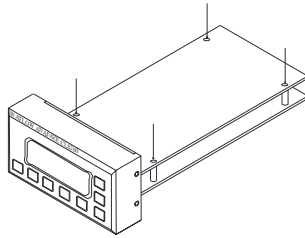

Figure 9.2 Screws Locations on PC Board
5. Unscrew the four screws at the corners of the top board and carefully unplug this board to access the bottom board (processor board). Figure 9.2 shows the screws to remove: